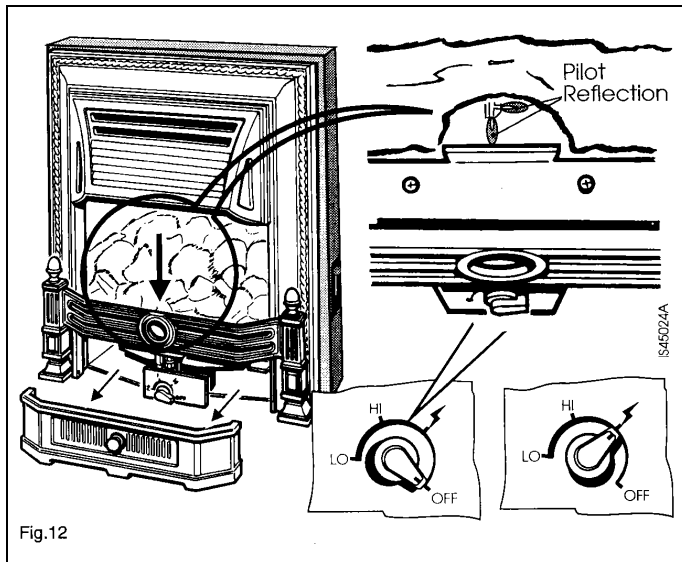

Fig.12
- Close all doors and windows, re-light the fire (pilot now only visible in a reflected form, see Fig.12). Then turn to the 'HI' setting.